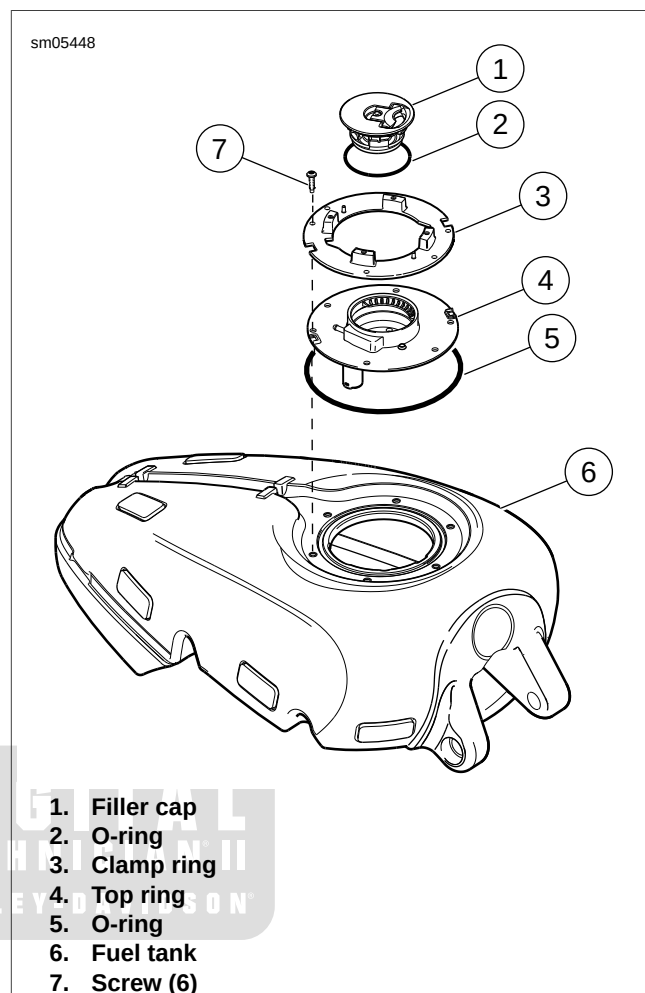
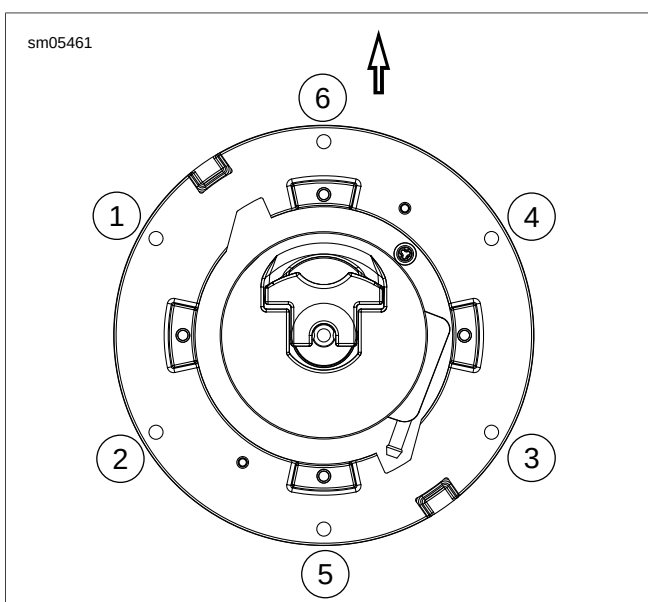

Figure 4-24. Fuel Tank Assembly
Figure 4-25. Filler Housing Torque Sequence
1. See Figure 4-24. Remove filler cap (1) with o-ring (2).
2. Remove screws (7) and clamp ring (3).
3. Remove top ring (4).
4. Remove o-ring (5).
- See Figure 4-24. Install O-ring (5) on top ring (4). Ensure it is seated properly.
- Install top ring and clamp ring with screws (7).
- See Figure 4-25. Tighten screws in the sequence shown to 40-45 **in-lbs** (4.5-5.1 Nm).
- See Figure 4-24. Install filler cap (1) with O-ring (2).